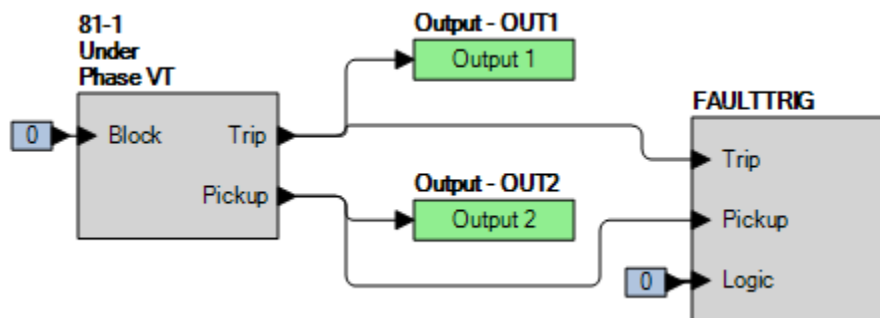

Figure 64-2. BESTlogicPlus Settings (Underfrequency)
Step 2: Use BESTCOMSPlus to configure the BESTlogicPlus programmable logic shown in Figure 64-2.
Step 4: Prepare to monitor the 81-1 function operation. Operation can be verified by monitoring OUT2 (see Figure 64-2).